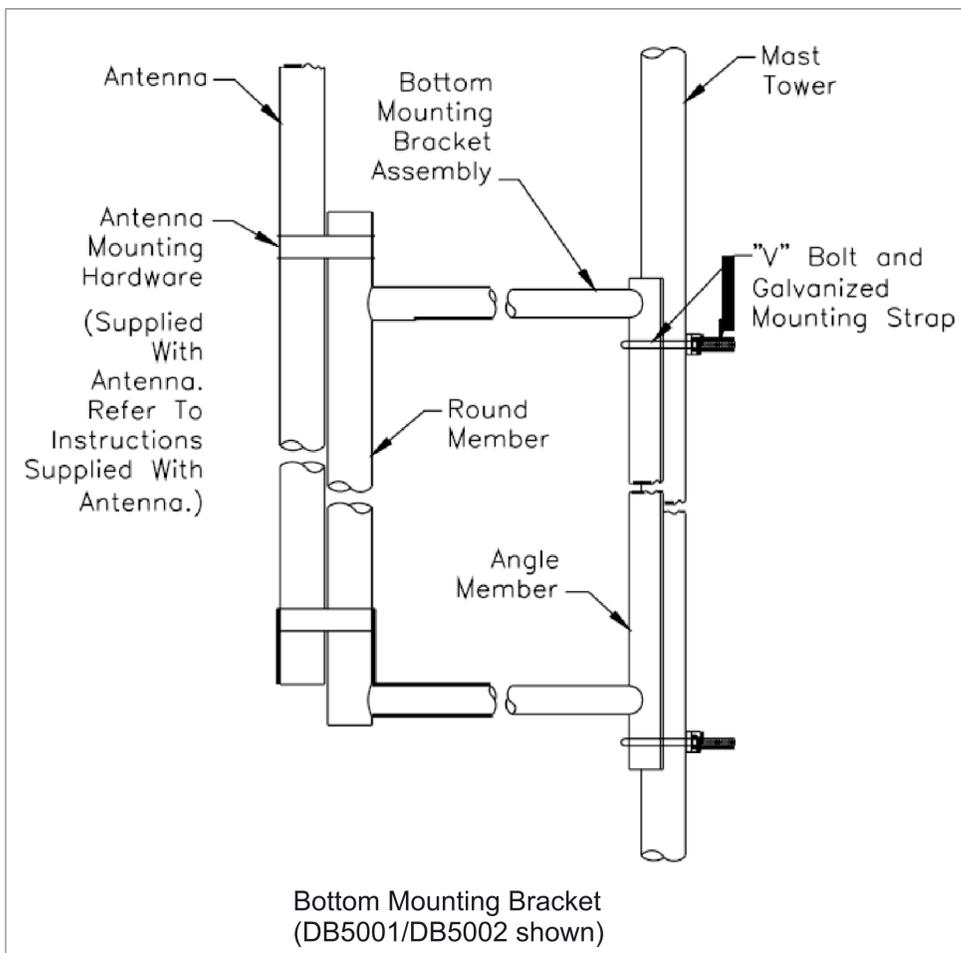

Figure 1. Installing the Bottom Mounting Bracket.
2. Using the "V" bolts and mounting straps supplied with the side mount kit, attach the bottom mounting bracket to the tower leg or mast (Figure 1).